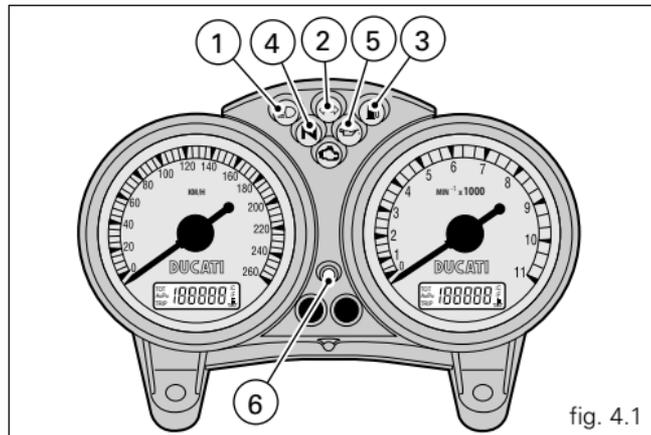
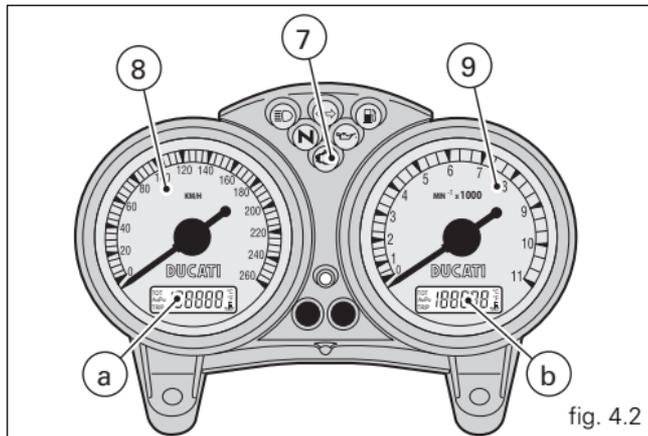

fig. 4.1
fig. 4.2
## Instrument panel (fig. 4.1 and fig. 4.2)
In the event of faults in the immobilizer system, the following procedure makes it possible to disable the "engine lock" function, which is indicated by the yellow-amber EOBd warning light (7, fig. 4.1).
The EOBD warning light (7, fig. 4.1) goes off after the pre-set time of 8 seconds.
- 4) Count the number of flashes of the EOBD (7, fig. 4.1) light equal to the first number of the secret code.